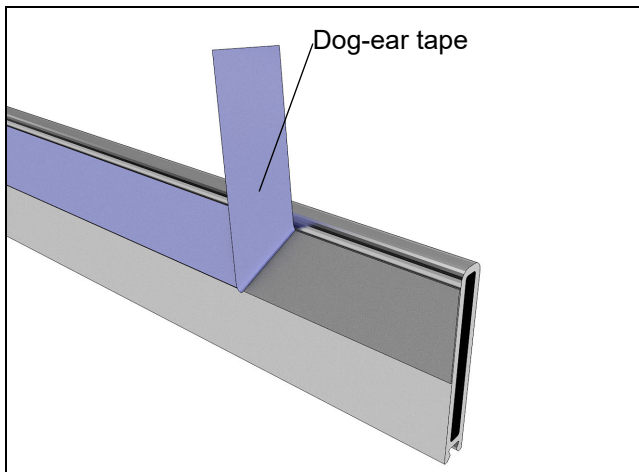

Figure 27
8. Peel back the backing on the tape and dog-ear it, exposing the tape by approximately 2". See Figure 27.